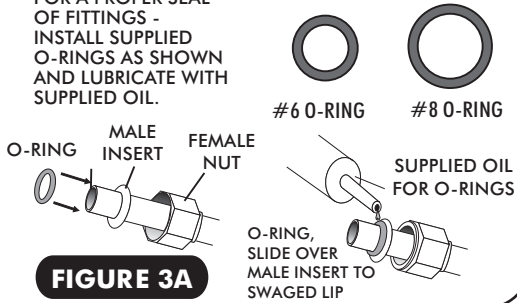
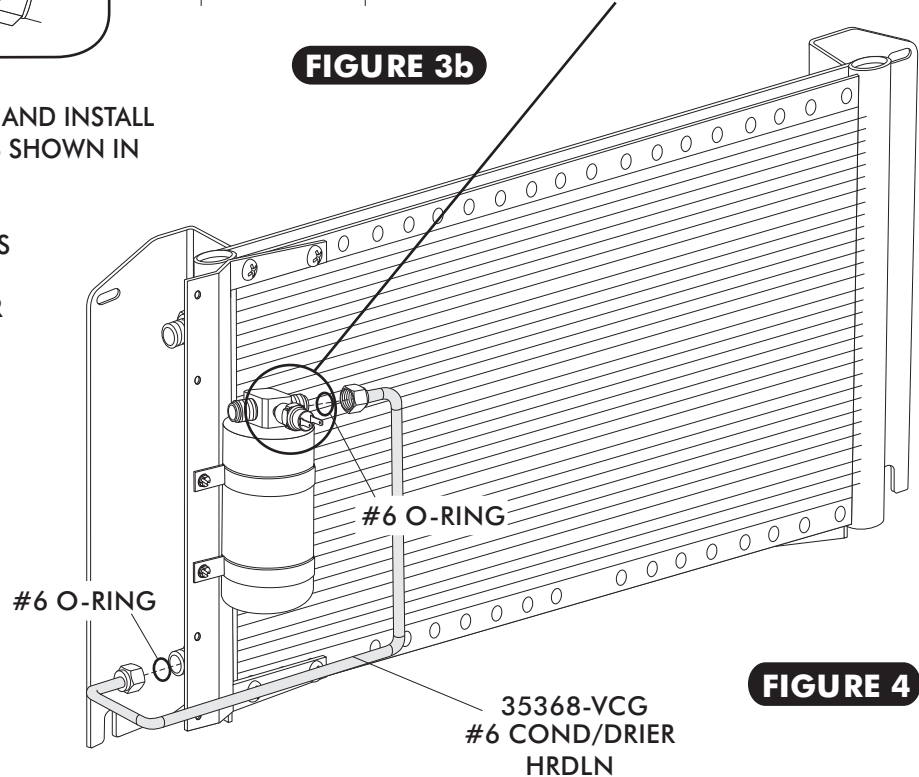
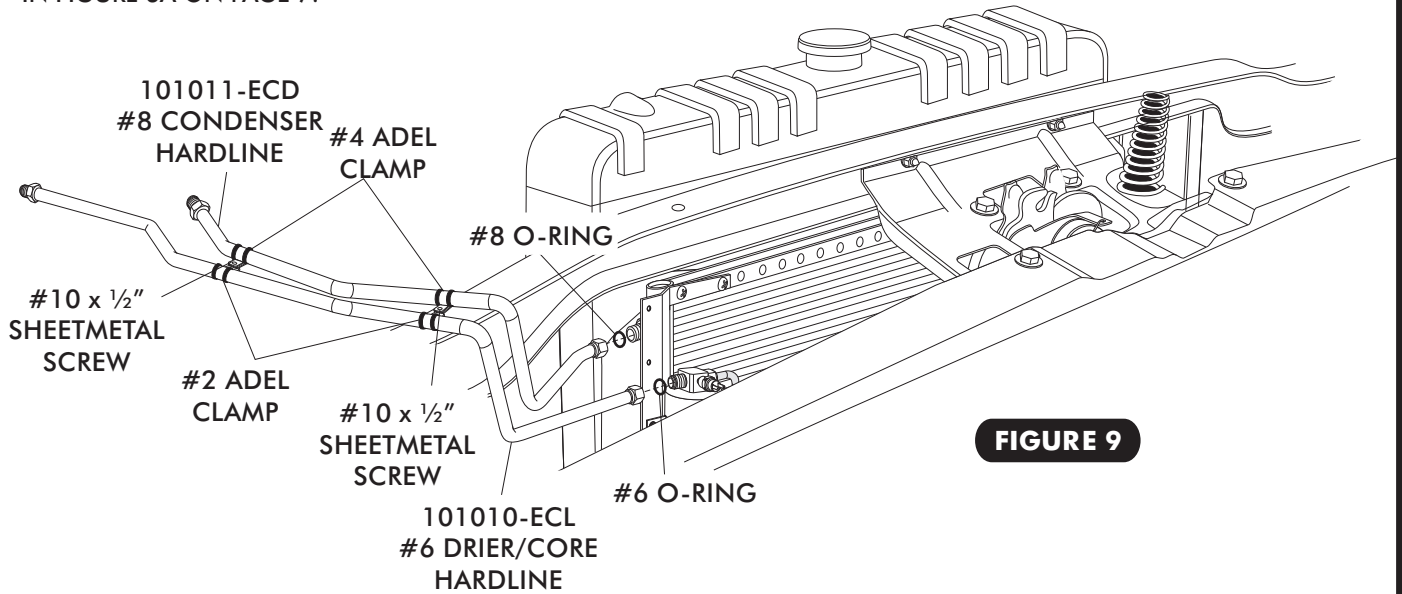

FIGURE 3A
FIGURE 4
FIGURE 9
- LUBRICATE (2) #6 O-RINGS AS SHOWN IN FIGURE 3a, AND INSTALL THE #6 COND/DRIER HARDLINE AS SHOWN IN FIGURE 4 BELOW. TIGHTEN FITTING CONNECTIONS AS SHOWN IN FIGURE 3a ABOVE.
- PLACE (2) ADEL CLAMPS AROUND THE #6 DRIER HARDLINE AND THE #8 CONDENSER HARDLINE AS SHOWN IN FIGURE 9 BELOW.
- LUBRICATE A #6 AND #8 O-RING AS SHOWN IN FIGURE 3A ON PAGE 7. INSTALL THE #6 DRIER HARDLINE AND THE #8 CONDENSER HARDLINE AS SHOWN IN FIGURE 9 BELOW. TIGHTEN FITTING CONNECTIONS AS SHOWN IN FIGURE 3A ON PAGE 7.